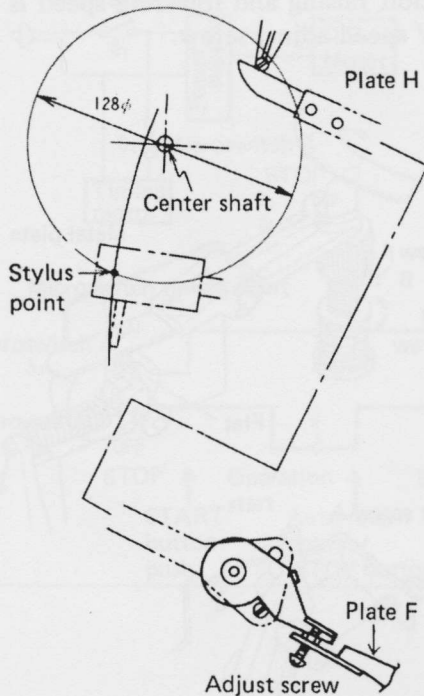

Fig. 21-b
- 2. With cartridge stylus 64mm from center shaft, so that tip screw of plate F and plate G contact, adjust tip screw (Fig. 21-b).